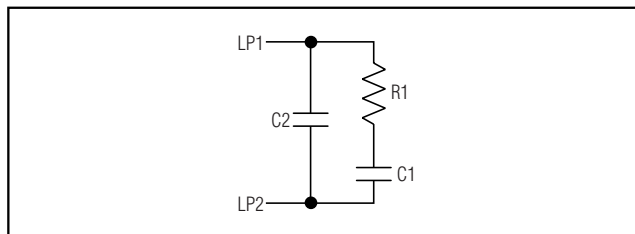

Figure 1. Typical Loop Filter
The PLL contains an integrated VCXO that uses an external crystal to track the input reference signal and attenuate input jitter. Figure 1 shows the external loop filter of the PLL containing resistor R1 and two capacitors, C1 and C2. This loop filter is connected between LP1 and LP2 as shown in the *Typical Operating Circuit*. The loop-filter bandwidth is determined by C1, C2, R1, and RSET where RSET is used to set the value of the charge-pump current. The typical values of C1, C2, R1, and RSET are 22nF, 560pF, 1000kΩ, and 13kΩ, respectively.
where R1 (Ω) is the resistor in the PLL loop filter (Figure 1), ISETI (A) is the charge-pump current calculated from the equation in the *Charge-Pump Current Setting* section, and N is the crystal PLL frequency divider equal to 4416.
where C1 (F) and R1 (Ω) are the values of the capacitor and the resistor in the PLL loop filter shown in Figure 1; ISETI is calculated as shown in the *Charge-Pump Current Setting* section and N = 4416.